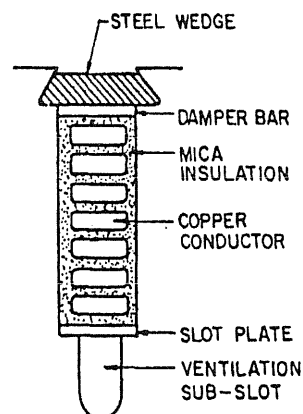

FIG. 4.50 : WINDING IN ONE SLOT OF CYLINDRICAL ROTOR
- In Fig. 4.50, one view showing the construction of cylindrical rotor is shown. Winding is not shown. Rotor slots are deep. Slots are not cut on the whole periphery. These are cut only in some portion. Two slip rings are kept on the shaft.